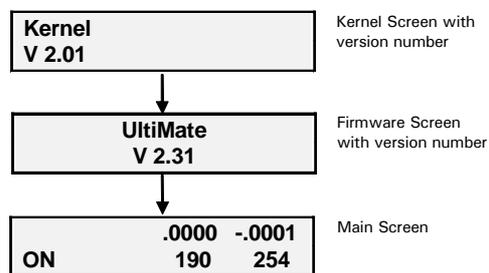

FIGURE 5-9. The Start-Up Sequence
- During the initialization, the Kernel Version and the Firmware Version number will be presented on the display as shown in FIGURE 5-9.
When the system has successfully passed all tests, the main screen will appear as shown in bottom of FIGURE 5-9 (a detailed discussion of the display is presented in Section 5.3.3).